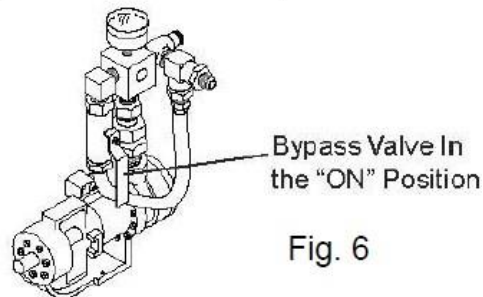

Fig. 6
6. With the bypass valve in the on, downward position, start the engine and allow it to run for 2-10 minutes. This aids in the mixing of the spray compound and assures greater pump efficiency and life. (See Fig. 6)